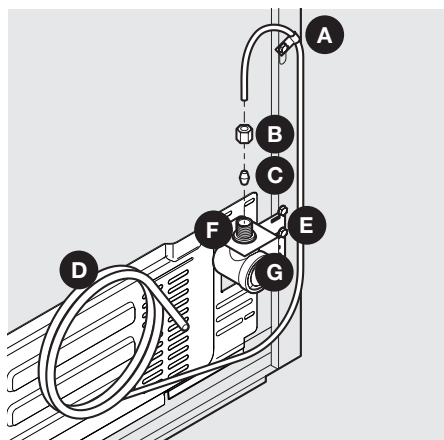

Figure 1
4. **If you use copper tubing** - Slide the brass compression nut, and then the ferrule (sleeve) onto water supply line. Push water supply line into water valve inlet as far as it will go ($\frac{1}{4}$ "/6.4 mm). Slide the ferrule (sleeve) into the valve inlet and finger tighten the compression nut onto the valve. Tighten another half turn with a wrench; **DO NOT** over tighten. See Figure 1.